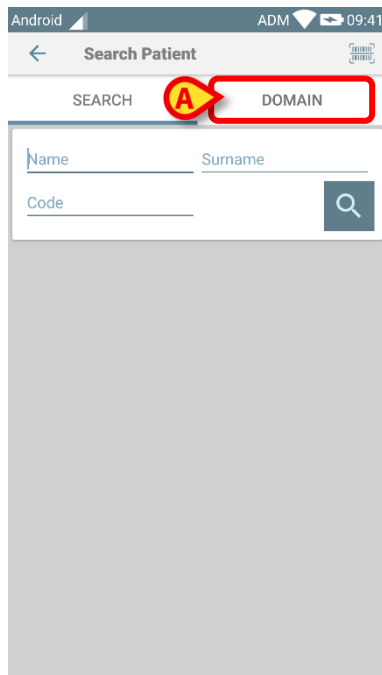

Fig 181
- Touch the icon indicated in Fig 171 **A** for devices without Myco/Unite integration or in Fig 172 **A** for devices with Myco/Unite integration. The following screen will appear (Fig 181 **A**):